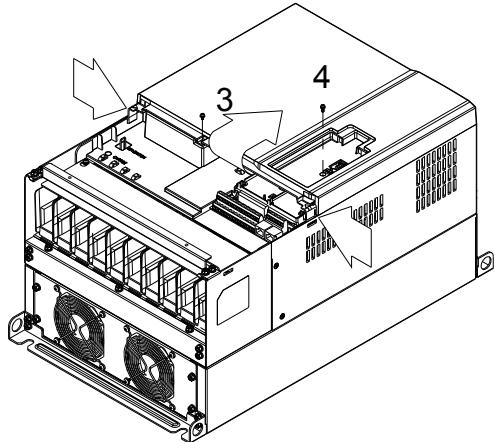

Figure 2
2. (Figure 2) Loosen screw 3, press the tab on the right and the left to remove the cover.